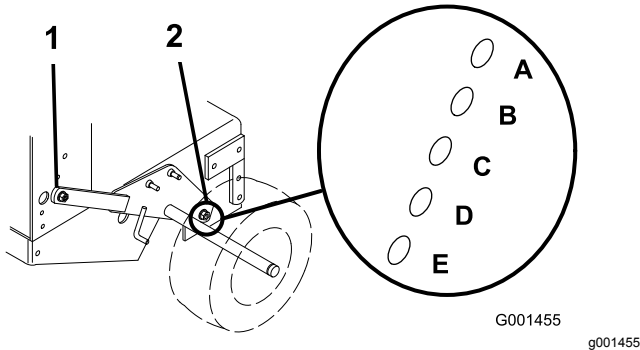

Figure 17
3. Loosen, but do not remove, the 2 axle pivot bolts and the 2 axle adjustment bolts (Figure 17).
4. Place a jack under the rear center of the engine frame. Raise the back end of the engine frame up enough to remove the front 2 axle adjustment bolts (Figure 17).
5. Raise or lower the engine frame with the jack so that you can install the front 2 axle adjustment bolts in the desired hole location (Figure 17).